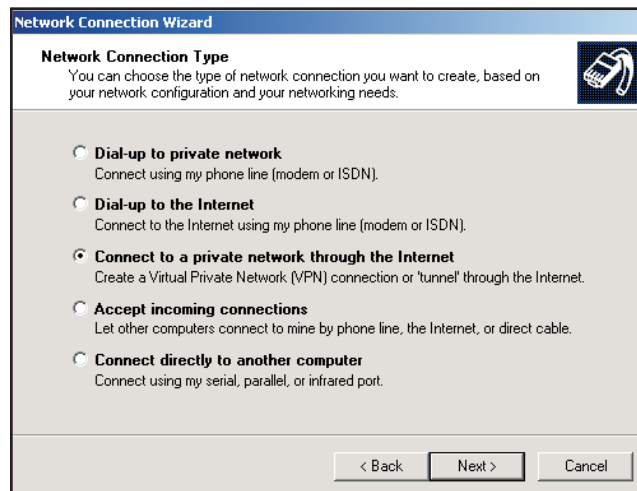

Figure 210 Selecting the Network Connection Type
5. Select *Connect to a Private Network through the Internet* as shown in Figure 210. Click on **Next**.